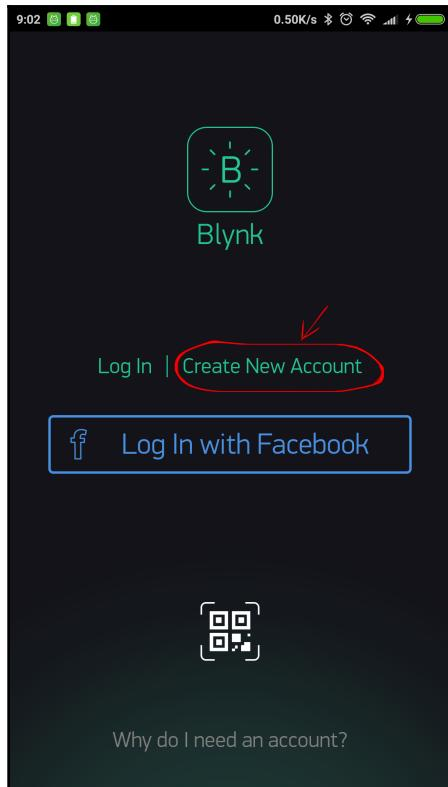

Figure 2.20: Creating a new account for the Blynk app
2. After downloading the Blynk app, you'll need to create a new Blynk account by tapping on **Create New Account**. Alternatively, you can log in to the Blynk app with your Facebook account by tapping on **Log In with Facebook** (Figure 2.20).